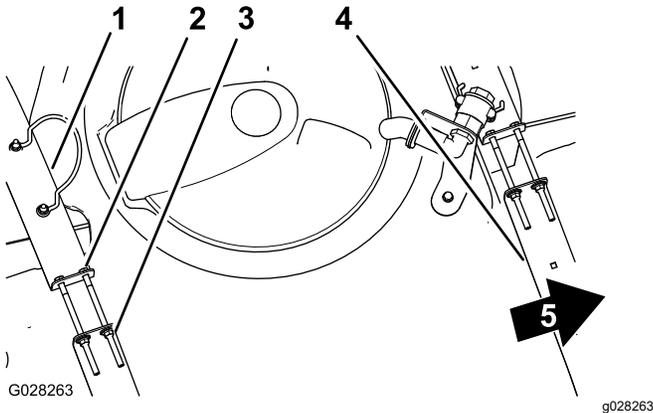

Figure 20
- Check to see if there is any movement between the tank straps and the tank (Figure 20).
- If the tank straps fit loose to the tank, tighten the flanged locknuts and bolts at the top of straps until the straps are flush with the surface of the tank (Figure 20).